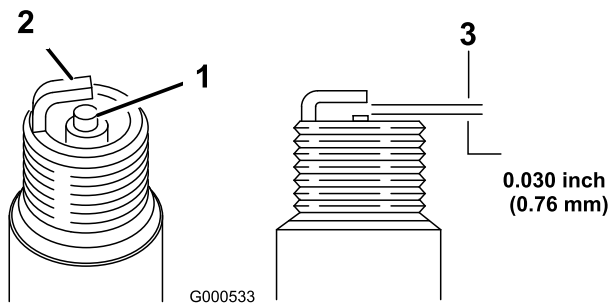

Figure 38
5. Set the gap on the plug to 0.030 in. (0.76 mm) (Figure 38).